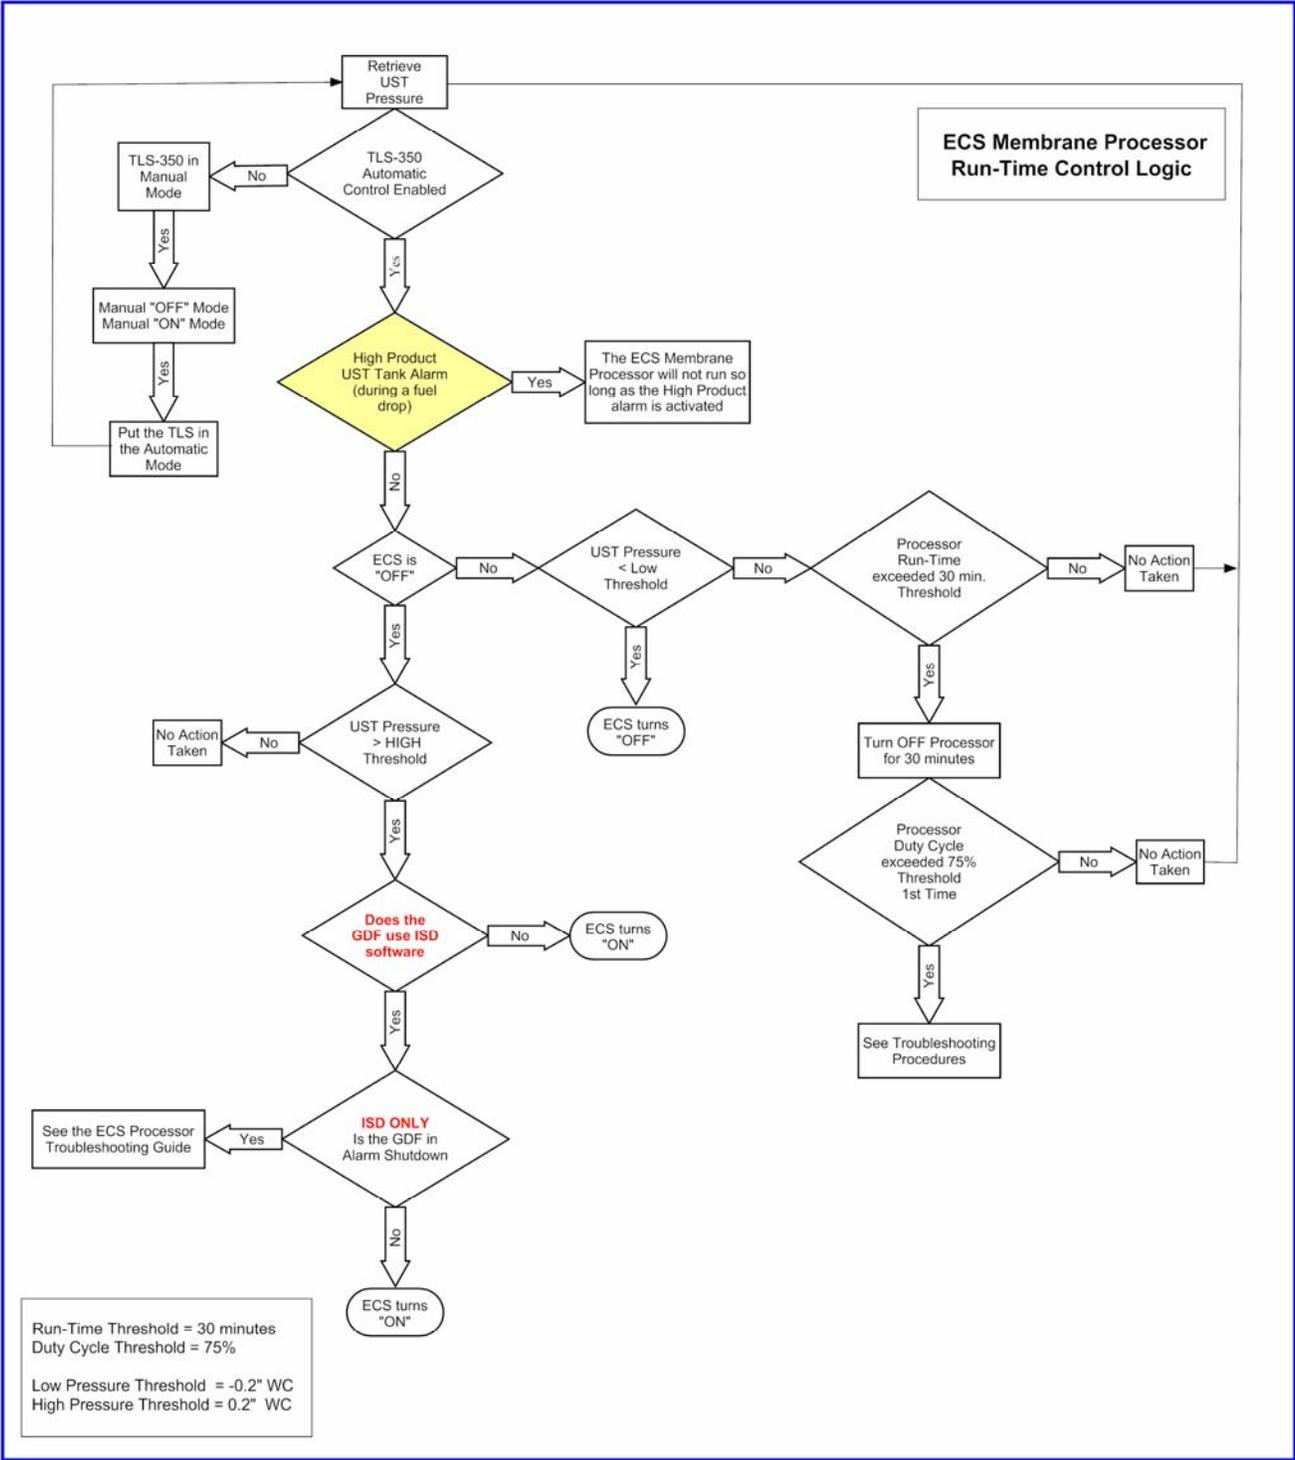

Figure 9: Processor Run-Time Algorithm
- The internal relay must be programmed as a **VST VAPOR PROCESSOR (VP)** through the TLS 350 relay setup menu.
- Figure 9 shows the *Processor Run-Time* Algorithm.